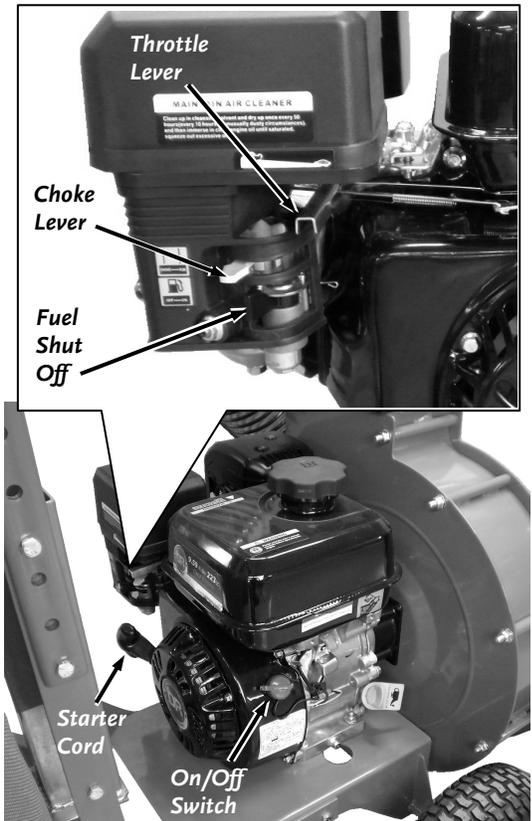

Figure 19
1. Move the Fuel Shut Off Lever to the ON position (**Figure 19**).
1. Slowly move the Throttle Control Lever to the “IDLE” (Turtle) position (**Figure 19**).